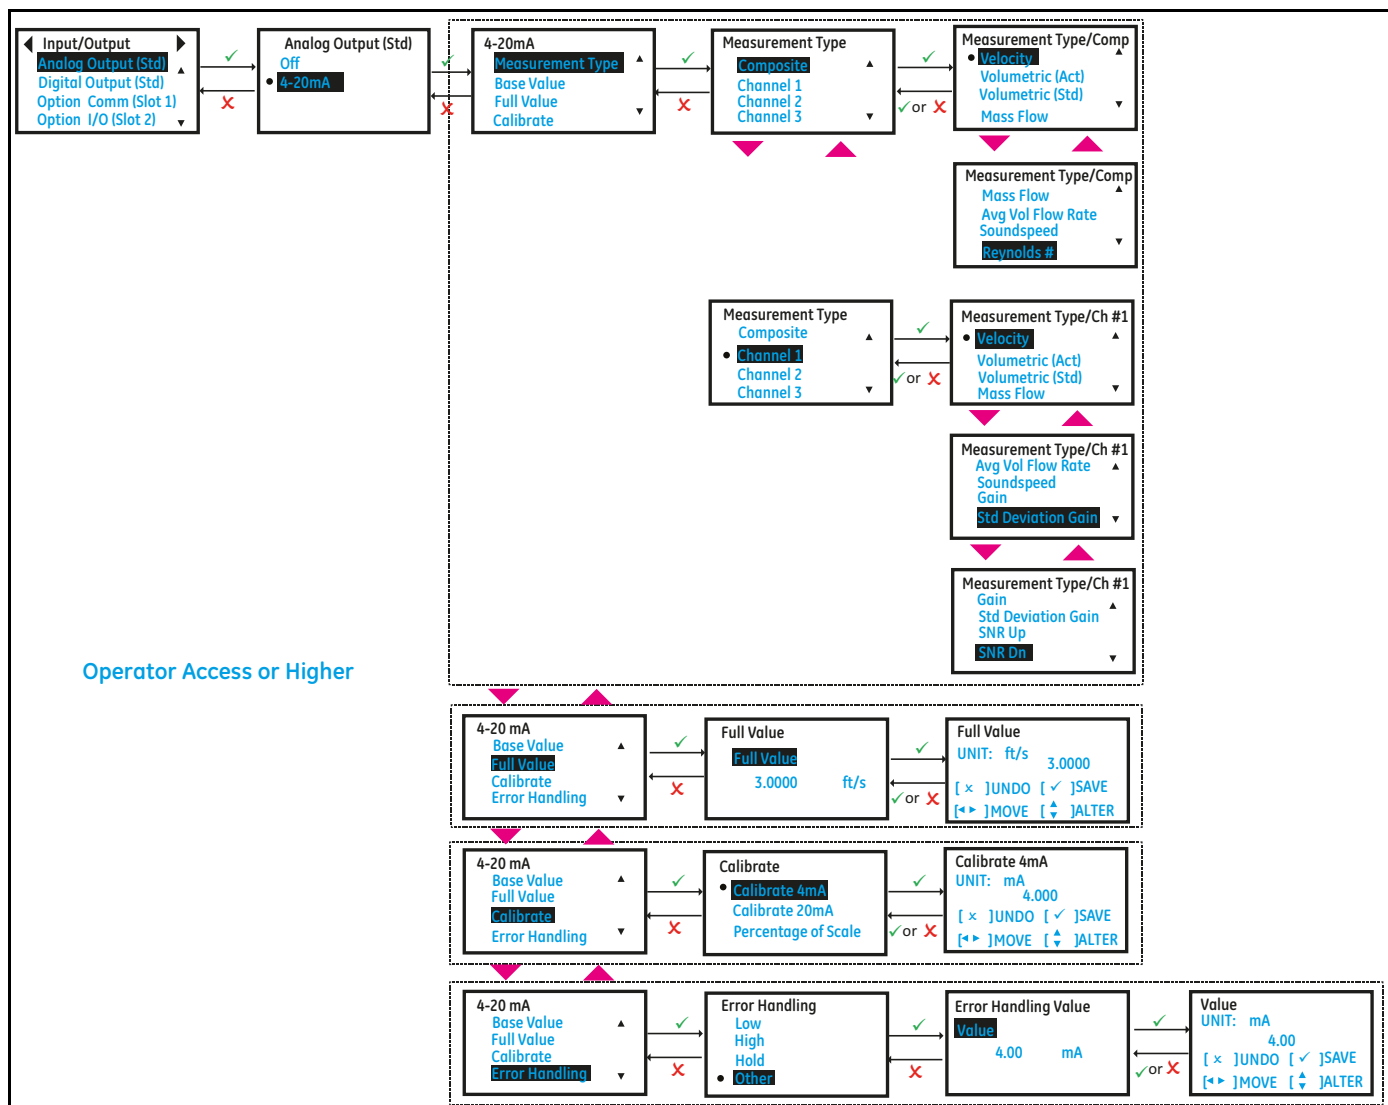

Figure 23: Setting up Analog Output
3. If you are connecting an Analog Output, choose 4-20mA option. The Figure 23 below, shows the available options.